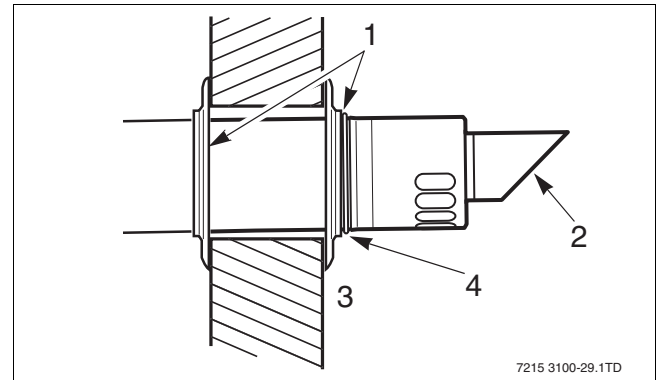

Fig. 29 Flue terminal position
- When just the terminal assembly is to be used, measure the length L from the raise ring back (→ fig. 29). The overall measurement for the outer duct is L minus 70 mm. The overall measurement for the inner duct is L minus 50 mm. Ensure that the cuts are made square and a free from burrs.